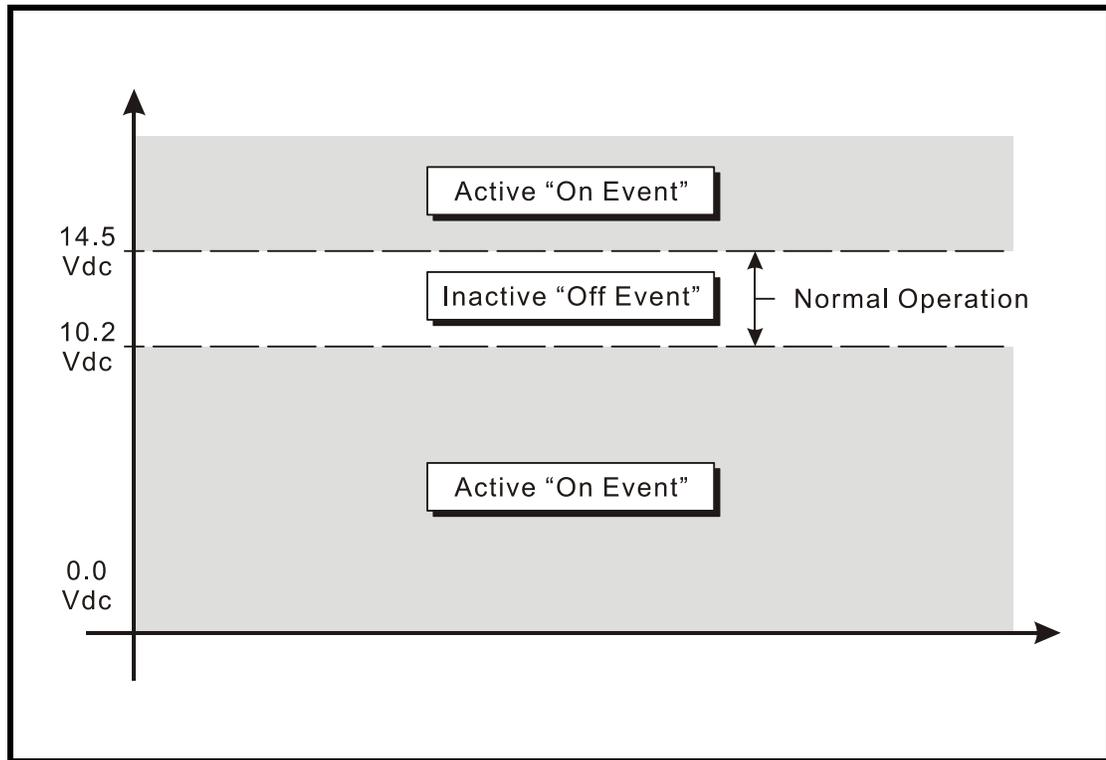

Figure 9 - Analog Input Operating Regions vs. Limit Values
Figure 9 on page 34 illustrates the relationship of the Low and High Limit Values to the Analog Input state. Each region defines the type of Event Record that is created by transitions of the input. The figure depicts an Analog Input configured to monitor a typical 12Vdc battery source. The figure indicates that the unacceptable region includes all voltages less than 10.2Vdc and all voltages greater than 14.5Vdc. The unacceptable region always consists of two portions separated by the acceptable region. If the input is within the range extending from 10.2 to 14.5Vdc the battery voltage is considered to be acceptable.
- **On:** The Digital Input voltage is in the range from 5 to 40Vdc. The Analog Input level is outside the acceptable range as defined by the region between the Limit Values (refer to Figure 9 on page 34). The Virtual Input evaluates to a true logic state. The Timer Input has reported a timed interval that is either too fast or too slow as compared to its assigned Low and High Limit Values, respectively (refer to the section entitled “Timer Inputs (W)” on page 34).